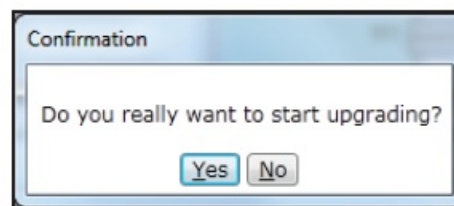

Figure 21. The Confirmation dialog box.
- **STEP 2.** Click on the Yes button in the Confirmation dialog box. See Figure 21.